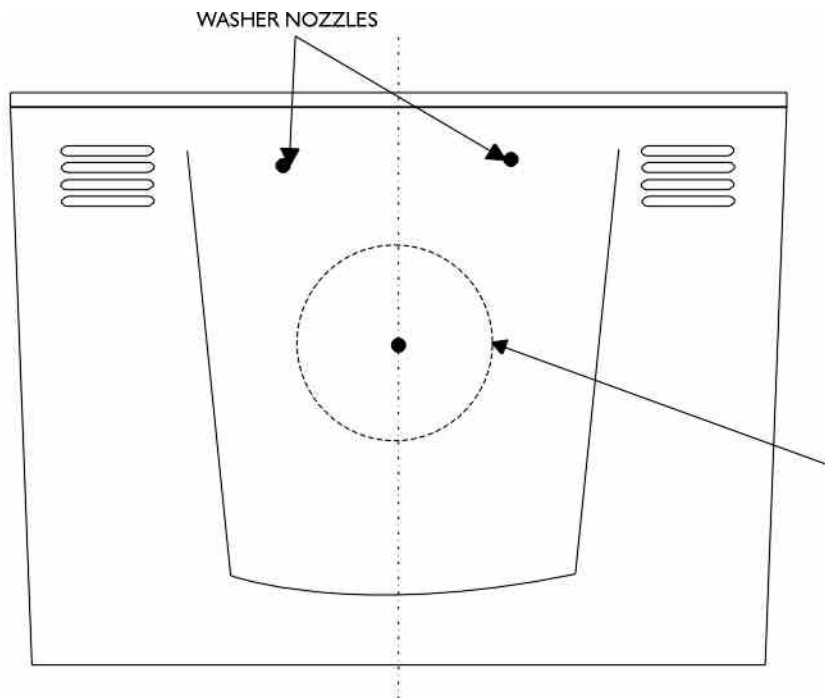

FIGURE 1
14. Starting at the rear, locate and carefully drill one 1/8" thru the Hood Scoop and the hood, 3/8" from the edge and on the centerline of the Hood Scoop. See Figure 1